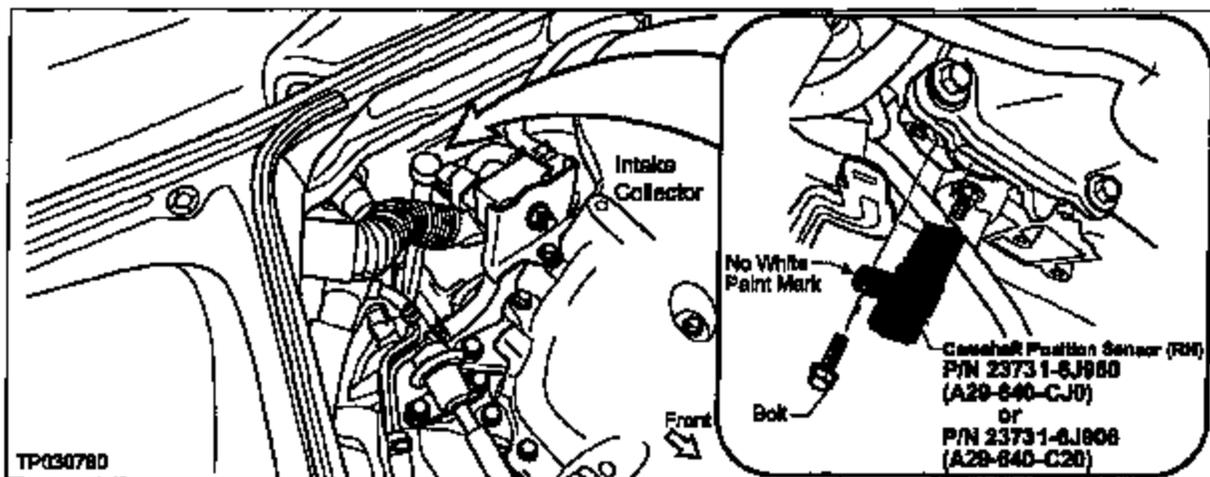

Figure 7
1. Locate the passenger side (RH) Camshaft Position Sensor (see Figure 7).